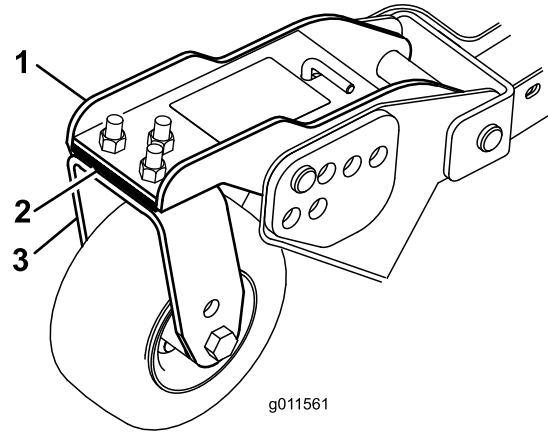

Figure 123
1. Remove the cap screws and nuts securing the caster arm to the caster fork (Figure 123).